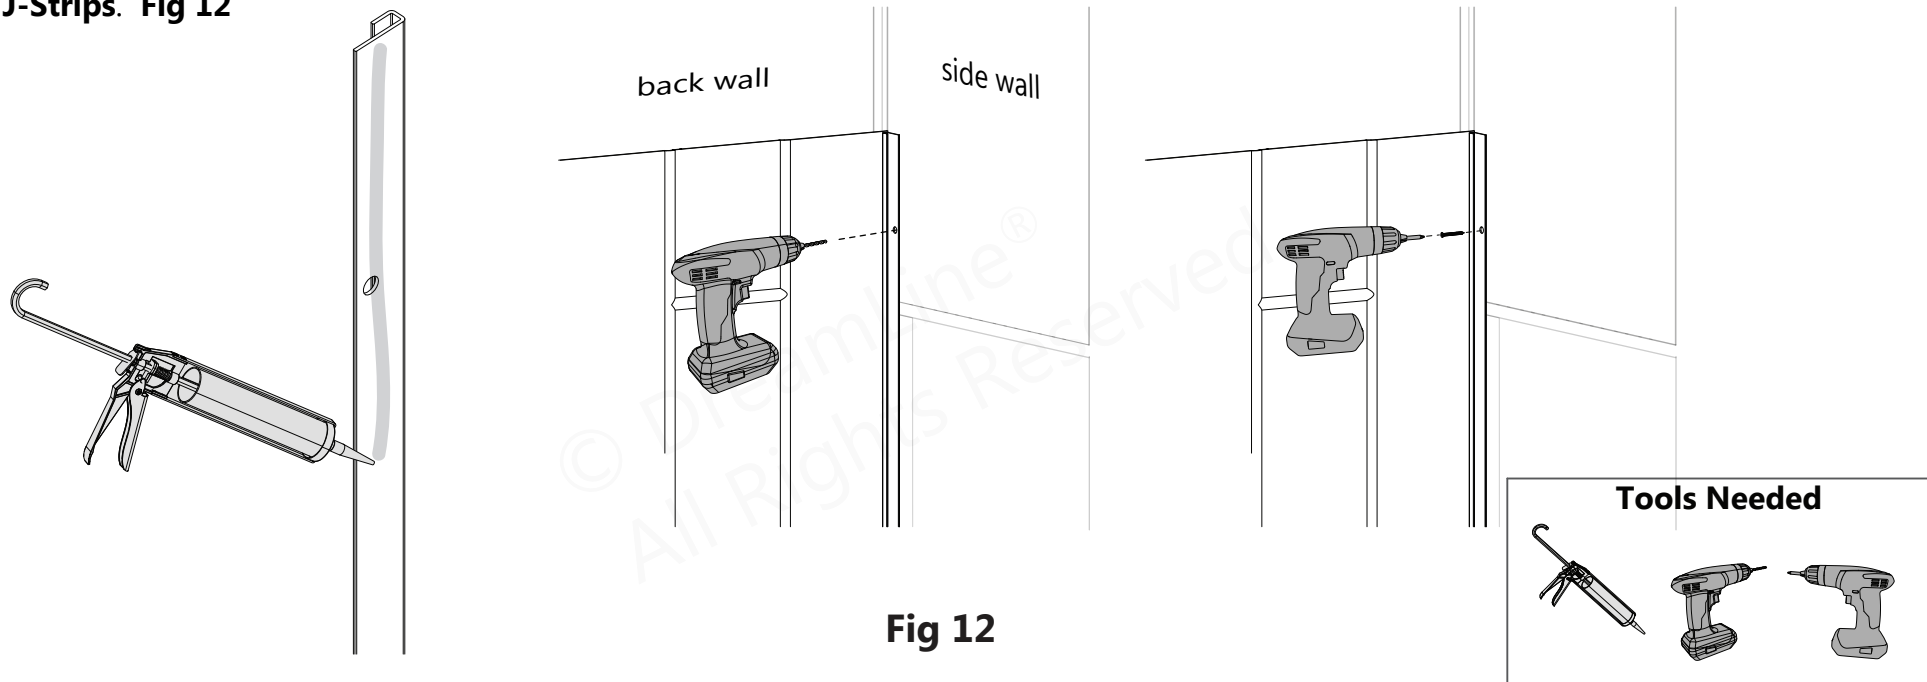

Fig 12
12. Apply clear silicone to the backs of both **J-Strips** and a thin bead of silicone into the corner of the opening. Press the J-Strips tight into the back corners. Wipe away any excess silicone with a clean rag. Use an \O 1/8" bit to drill into the wall through the holes in the J-Strips. Secure the **J-Strips** with the **ST 4.2 x 30 Countersunk Screws (#05)**. Be sure the screw heads are flush with the surface of the **J-Strips**. **Fig 12**